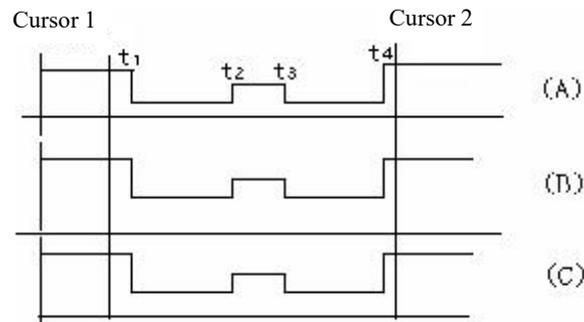

Figure 10 Ideal OLTC transition waveform
1. The ideal OLTC transition waveform is shown in Figure 10:
1. On-load voltage regulation winding star type wiring has neutral point: the wiring method is shown in Figure 10: